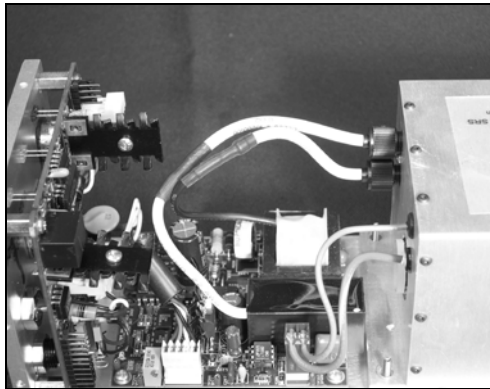

Figure 26. Make sure HV lead is not near board components.
10. Make sure the HV lead is clear of all components attached to either printed circuit board as shown in Figure 26. It may touch the trigger wire lead.